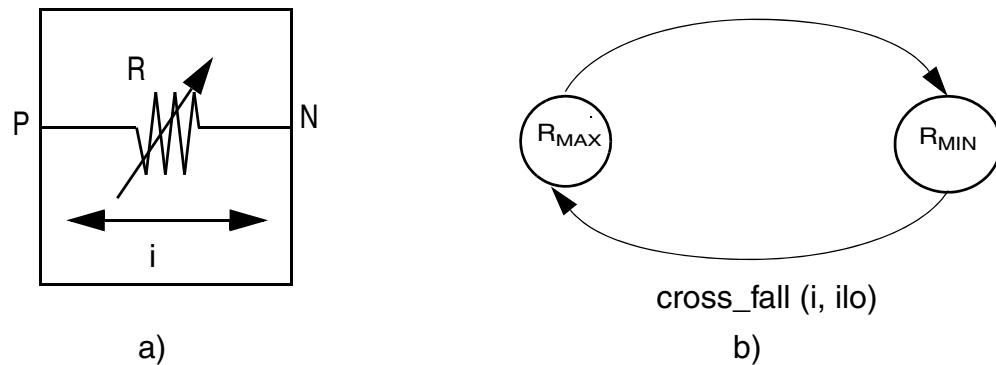

Figure 31 STT MRAM 2-terminal device (MRES0) and b) STT MRAM state sequence and current requirements
Graphically, the STT MRAM core cell can be represented as a 2-terminal device, consisting of a bidirectional bit line (BL) shown in Figure 31.